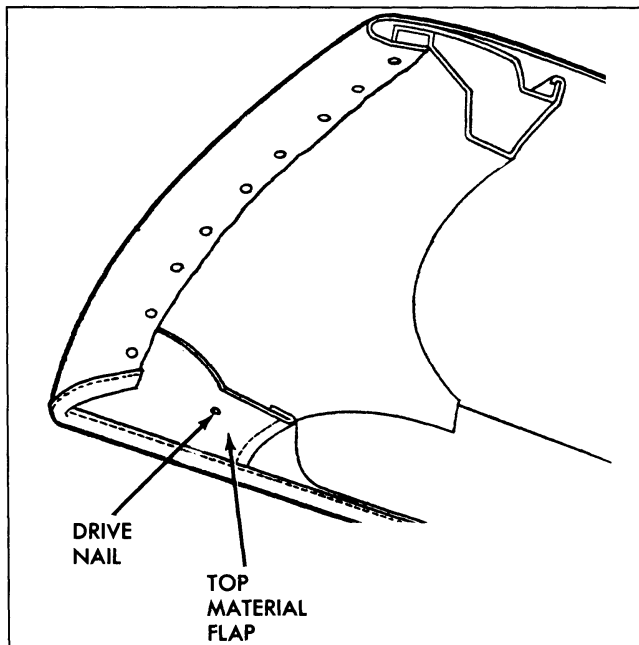

Fig. 22-29 Top Material at Front Rail
4. Loosen front end of each side roof rail front weatherstrip sufficiently to detach top material flaps which are nailed and cemented to rails (Fig. 22-29).